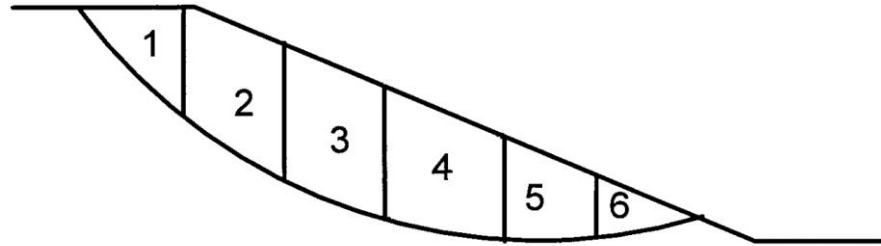

Figure 1
- Piezometers have now been installed to precisely monitor water levels and pore pressures and their fluctuations with the seasons. The maximum water levels occurred during the rainy season. The worst case water table position is given in Table 1 in the form of the mean height above the base of the 6 slices of the slope geometry shown in Figure 1. Using Table 1, estimate the drained factor of safety using the Swedish method of slices, accounting for pore water pressures.